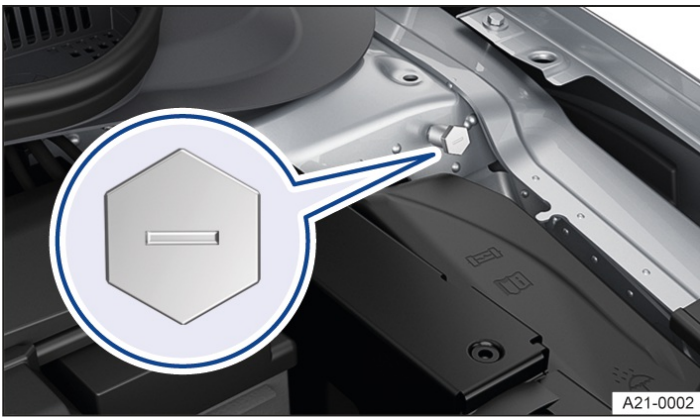

Fig. 1 In the engine compartment: jump-start connection point (earth).
- The jump-start connection point (earth) is used for connecting the black jump lead → Fig. 1.